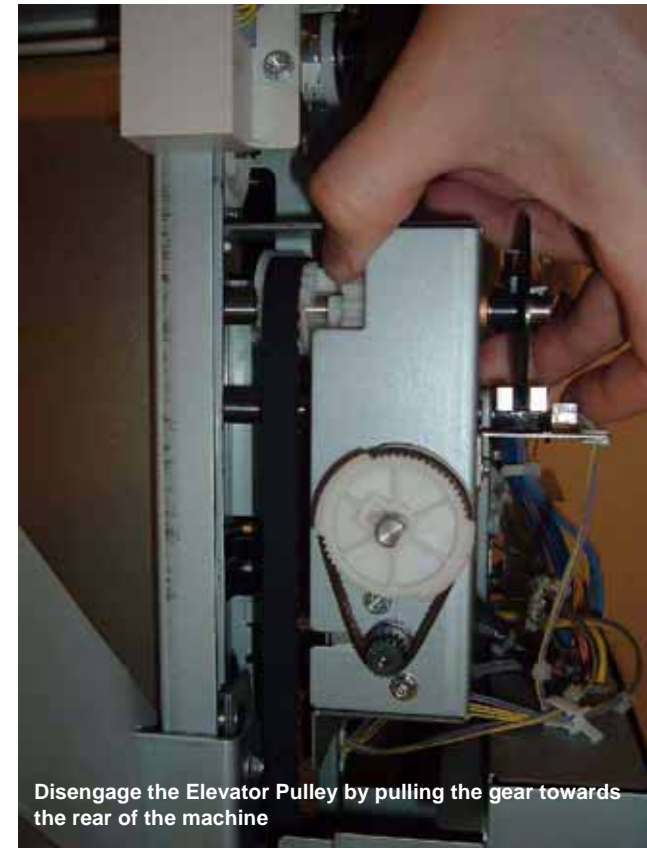

Figure 1 Disengaging the Elevator Pulley
2. Disengage the Elevator Pulley (Figure 1).